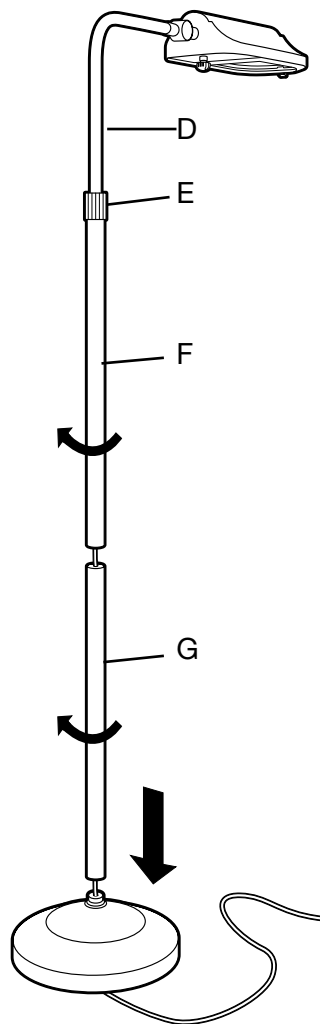

Fig. 1
1. Set lamp base on the floor and insert the lower lamp shaft (G) onto the base and screw clockwise to tighten (Fig.1).
2. Pull the slack of the electrical cord through the lamp base (I).
3. Loosen the height adjusting collar (E) to free lamp arm (D).
4. With one hand holding the lamp arm (D), screw the upper shaft (F) onto the lower shaft (G) (see assembly detail below).
6. To lift lamp head, loosen swivel knob (C), adjust head to desired angle. Tighten swivel knob.